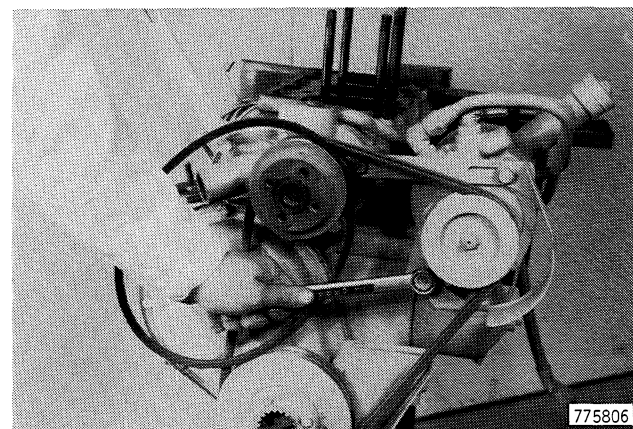

Figure 60
4. Loosen the nut on the steering pump mounting stud, Figure 60.